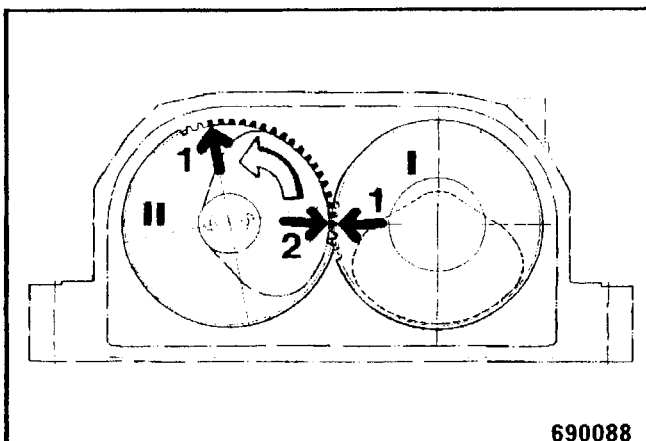

Fig. 9
- Pull gear II out slightly, turn it counter clockwise and bring mark 2 (Fig. 9) to match mark (1) on gear I.